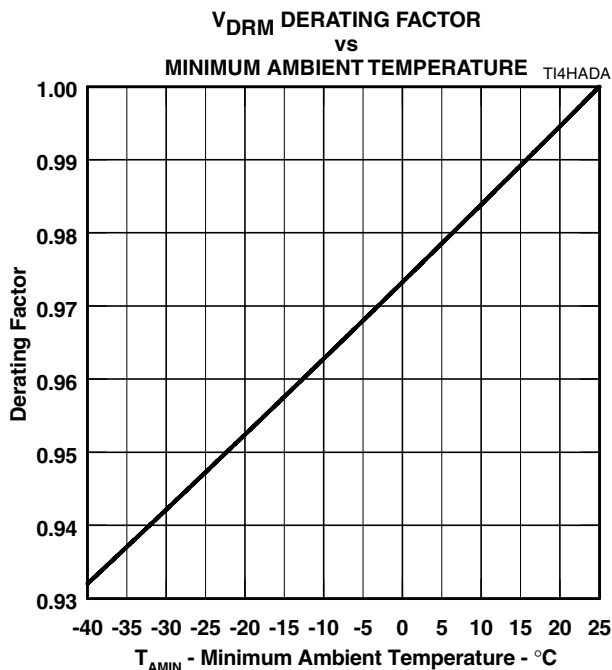

Figure 9.
- NOTES: 1. See Applications Information and Figure 9 for voltage values at lower temperatures.